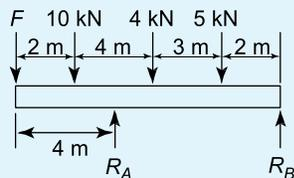

Figure 5.21
8. A uniform girder carrying point loads is shown in Figure 5.21. Determine the value of load  $F$  which causes the beam to just lift off the support  $B$ .